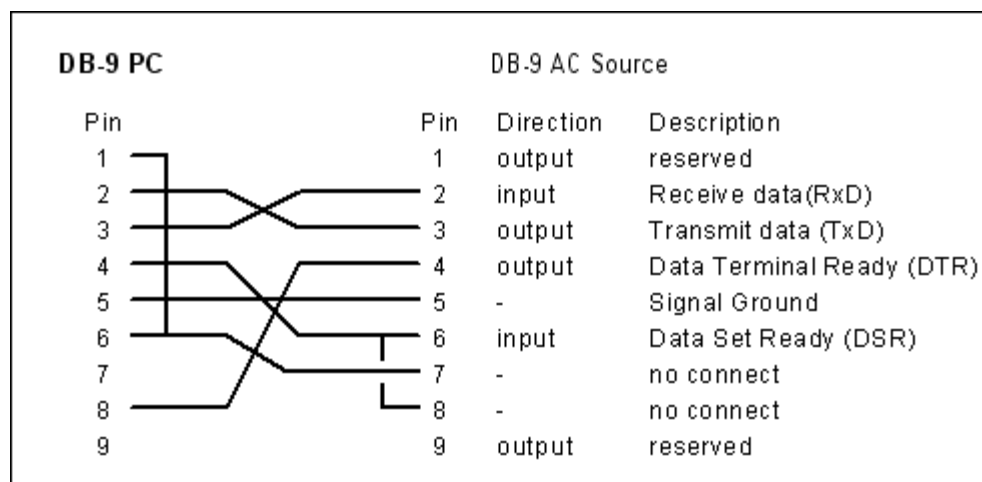

Figure 3-2: RS232C Cable for PC Connection wiring diagram – Units without USB.
The output terminal block, TB2, is located at the rear of the unit. The external sense inputs allow the power system output voltages to be monitored directly at the load and must be connected either at TB2 or the load when the sense is programmed for external. The external sense input does not have to be connected when Internal Sense is programmed. The external sense wires are to be connected to TB3 on the rear panel and should be run as a twisted pair for short lengths. Sense leads over three (3) feet long should be run as a twisted shielded pair. Refer to Figures 3-2 through 3-12 for all connections.